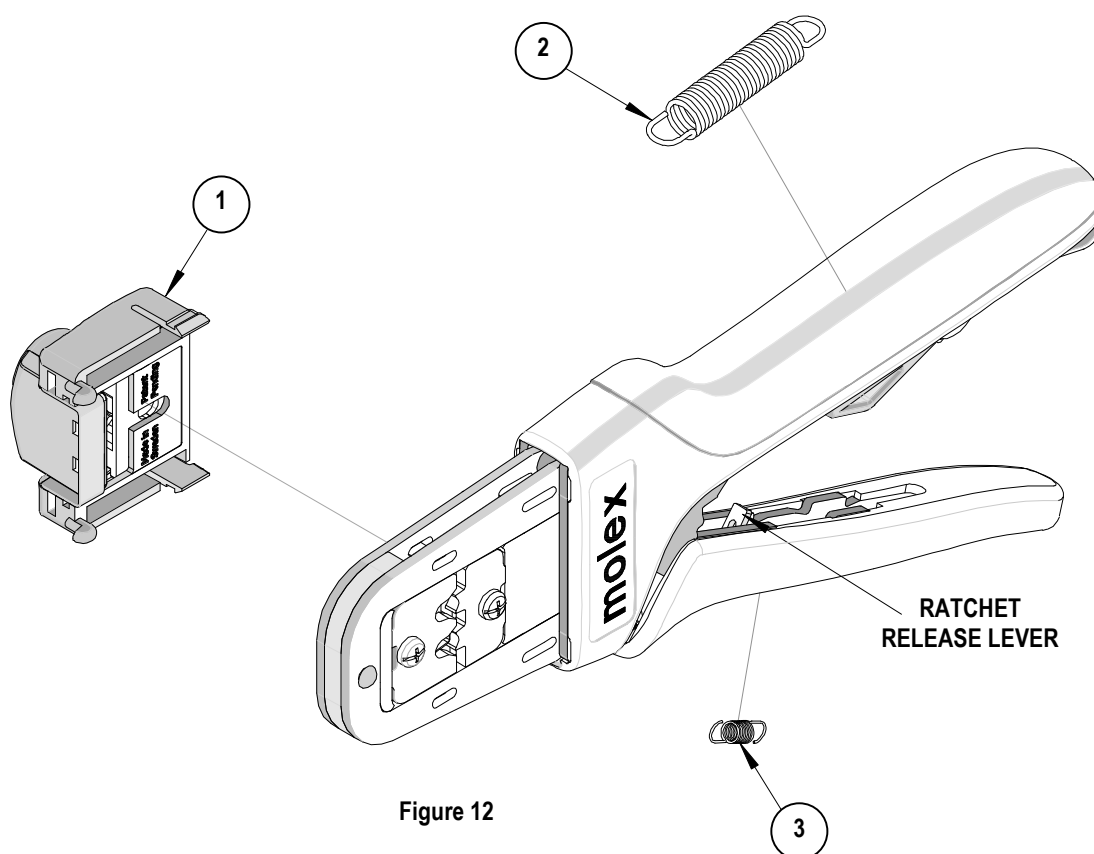

Figure 12
1. Hold the hand tool in the palm of your hand as shown in Figure 12. Using the index finger squeeze the link towards the top of the hand tool frame. This will release the preload adjustment wheel.
2. Rotate the setting wheel counter-clockwise (CCW) to increase handle force. The numbers will display higher. To decrease handle force rotate the setting wheel clockwise (CW).